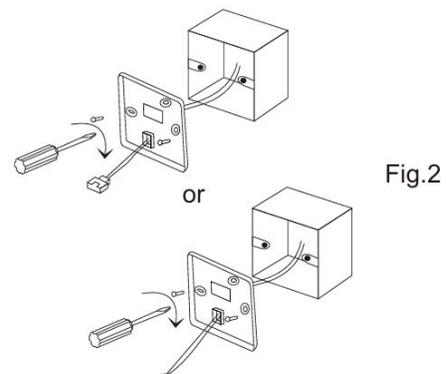

Fig.2
3. As shown in Fig.2, fix 4 * 20mm screws provided together with the back cover on 8 6 box, then pass lead wires through the back cover.